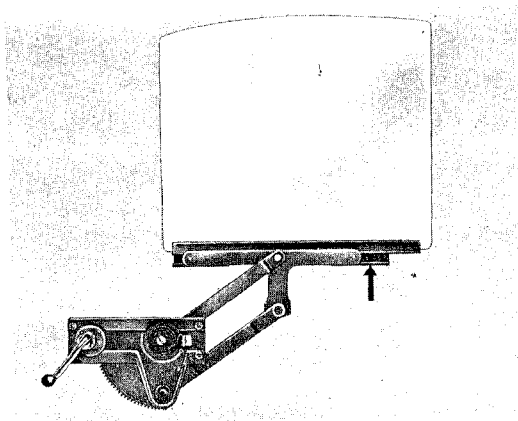

Fig. 37
5. Bend open the window elevating track at the arrow Fig. 37, and spread the window rails so that the window can be brought out of the frame toward the inside.